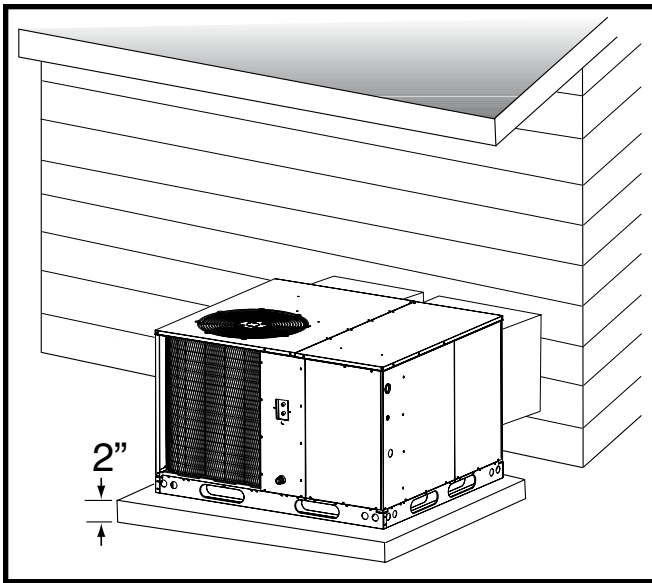

Figure 4. Ground Level Installation
- A suitable mounting pad (Figure 4, page 13) must be provided and be separate from the building foundation. The pad must be level to ensure proper condensate disposal and strong enough to support the unit's weight. The slab height must be a minimum of 2" (5cm) above grade and with adequate drainage.